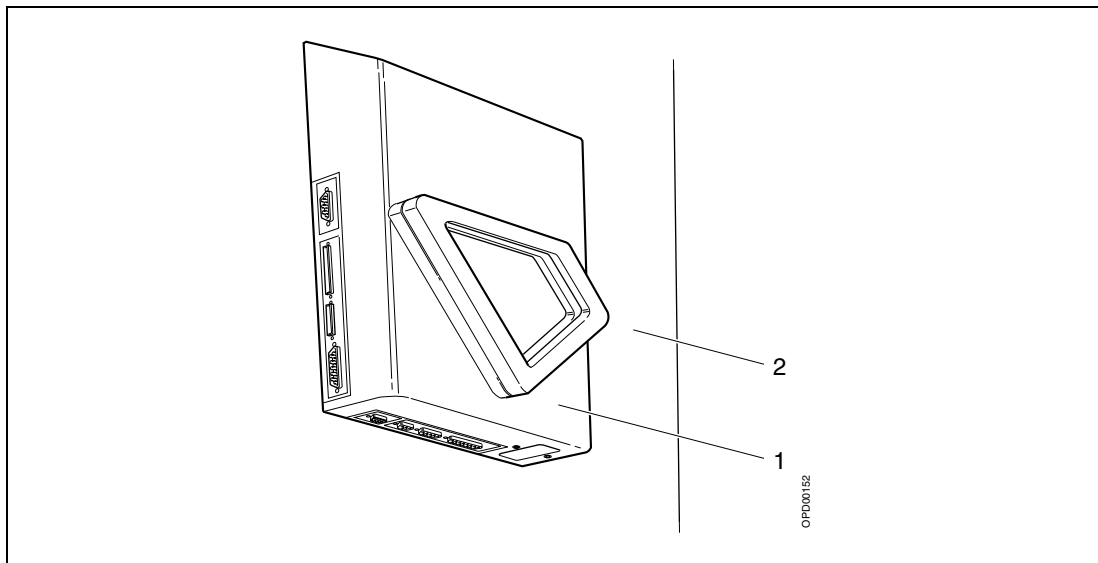

Fig. 4 Biopsy controller
4. Lift off the biopsy controller (1/Fig. 4) from the holders of the stand (2/Fig. 4).